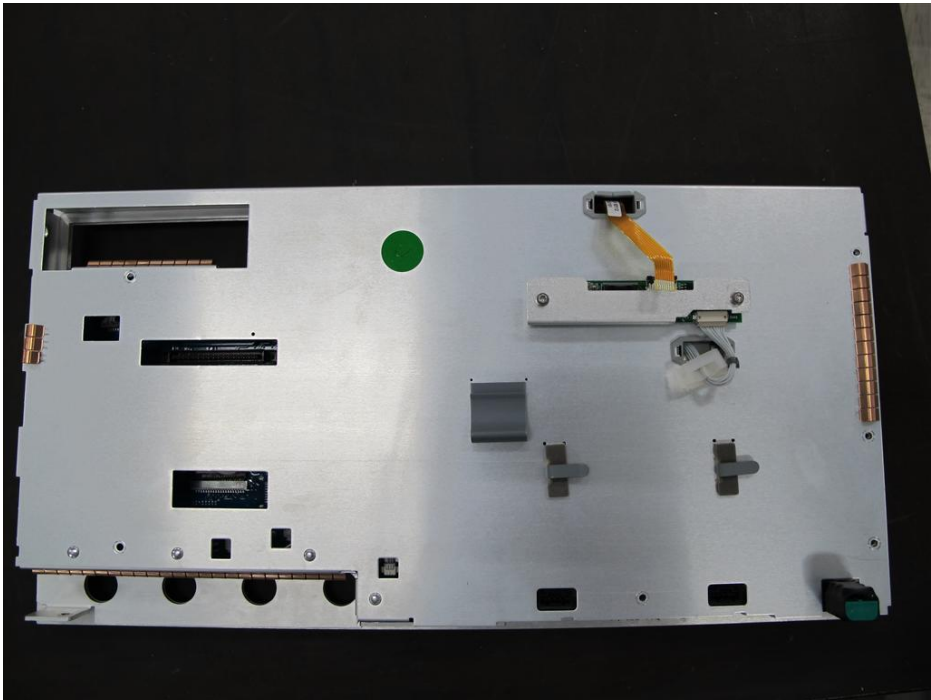

Figure 2-12
10. Figure 2-12 illustrate the final front panel assembly.